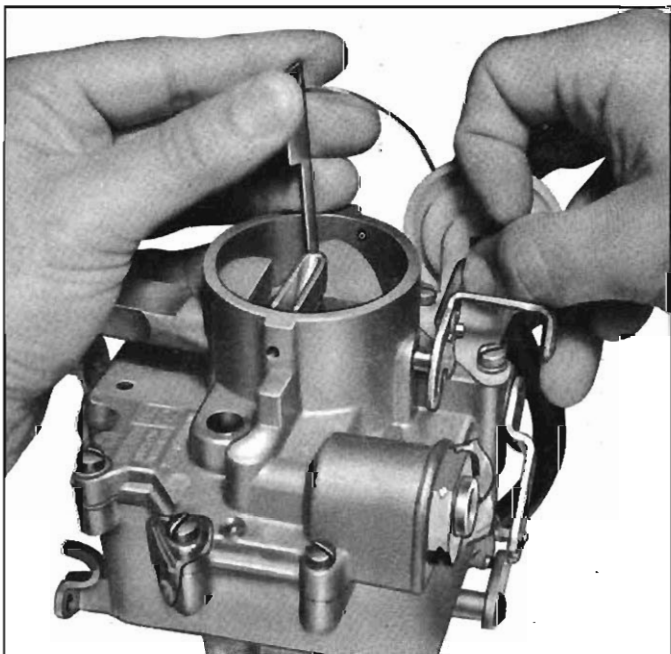

Fig. 9-7—Vacuum Diaphragm Adjustment
### VACUUM DIAPHRAGM ADJUSTMENT (Refer to Figure 9-7)
- d. At this setting, throttle lever fast idle tang should rest on second highest step of fast idle cam. If not, adjust by bending outer choke shaft lever tang (fig. 9-7 insert).